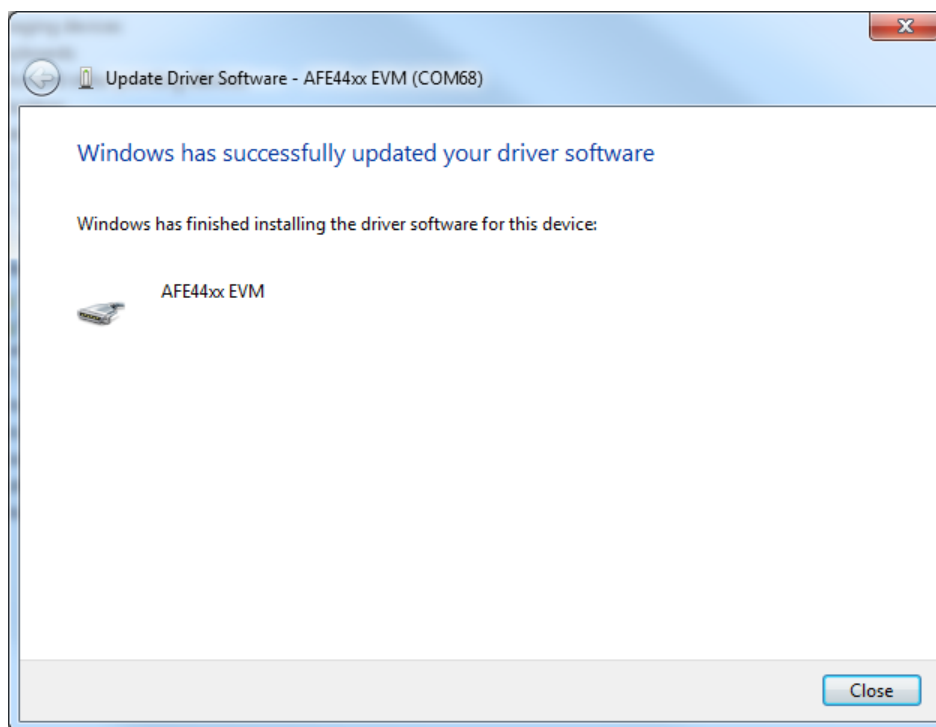

Figure 12. USB Driver Installation - Screen 4
6. Click the **Close** button once the driver installation is complete (Figure 12).